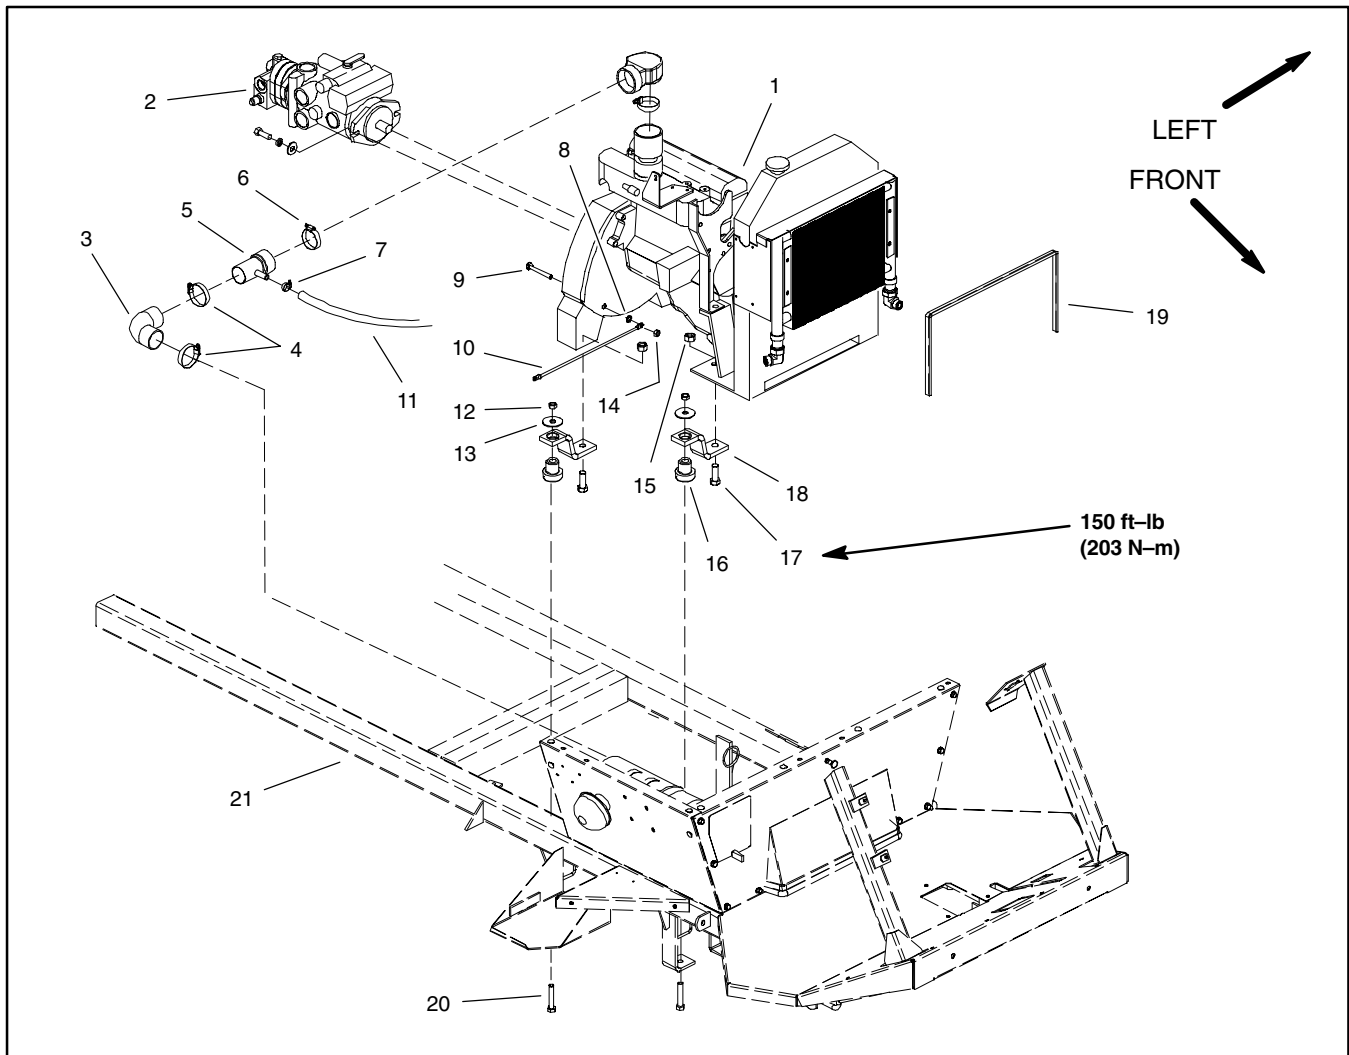

Figure 14
## Removal (Fig. 14)
**Installation (Fig. 14)**